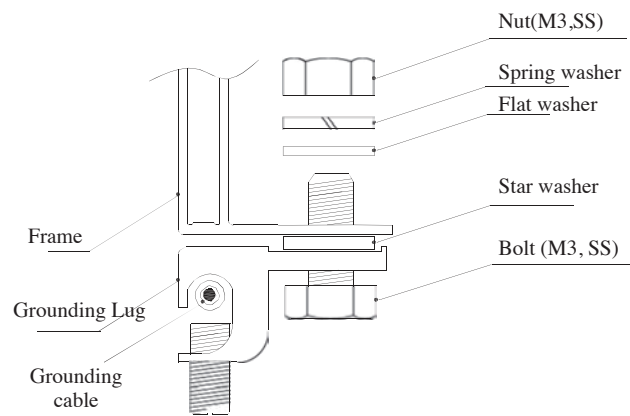

Figure 8
- First, peel the grounding cable to a proper length without damage to the metal core. Then insert the peeled cable into the lug, tighten the screw. As shown in Figure 8 connect the lug to the aluminum frame with stainless steel bolts and connection components. The recommended tightening torque for M3 bolts is 2.3N•m.